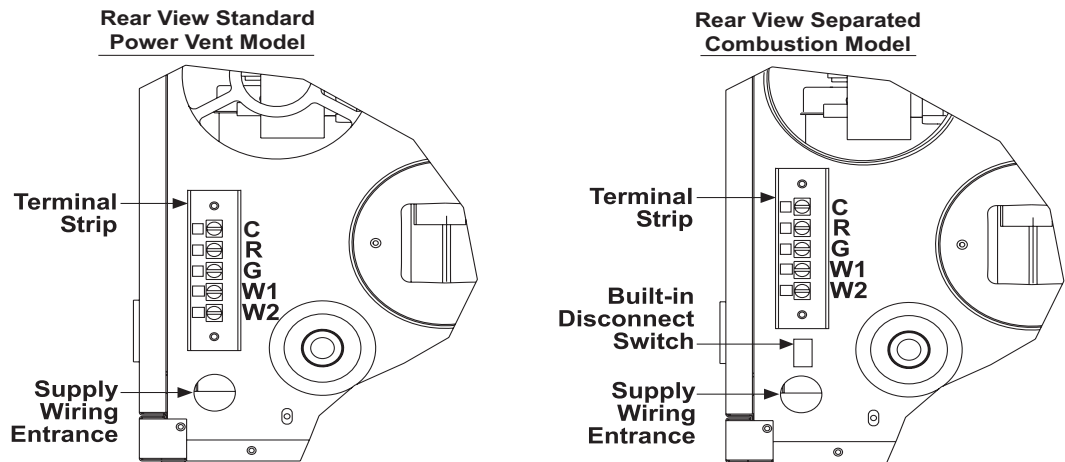

Figure 10. Supply Wiring Entrance and Control Connection Terminal Strip
- The supply wiring enters at the rear of the heater, as shown in Figure 10. For UBX and UDX models, the supply wiring connects directly to leads on the integrated circuit board. For UBZ and UDZ models, the supply wiring connects to leads located inside a sealed electrical box. To maintain the sealing feature of the electrical box, always replace the cover plate.
- The terminal strip for 24V control connections is located on the outside of the cabinet at the back of the heater, as shown in Figure 10. Wires from the terminal strip are factory-wired to the circuit board.
- UDZ and UBZ units have a built-in disconnect switch (20A@115V or 10A@230V rating), as shown in Figure 10.
- Make thermostat connections at the terminal strip on the back of the heater (see Figure 10). The strip has five terminals: C, R, G, W1, and W2. Refer to the wiring diagram provided with the heater.